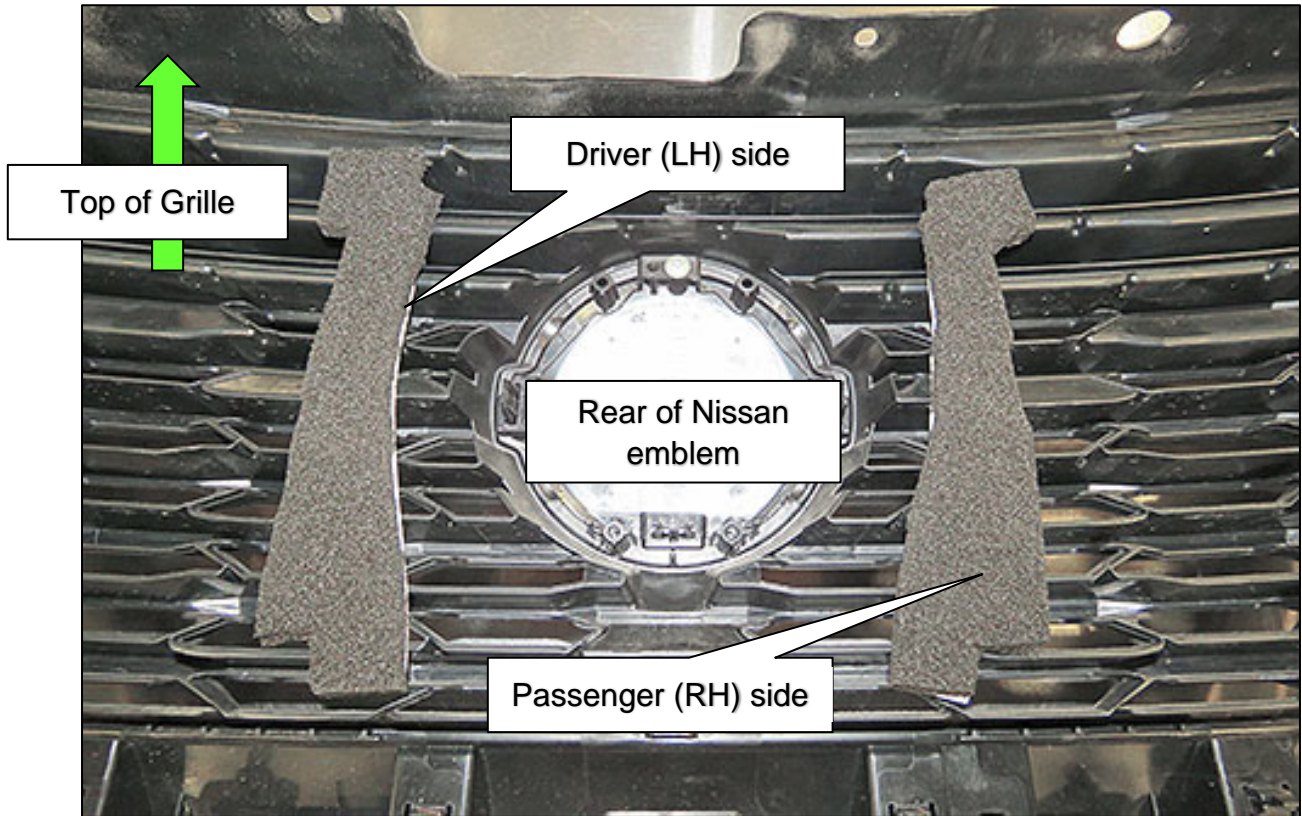
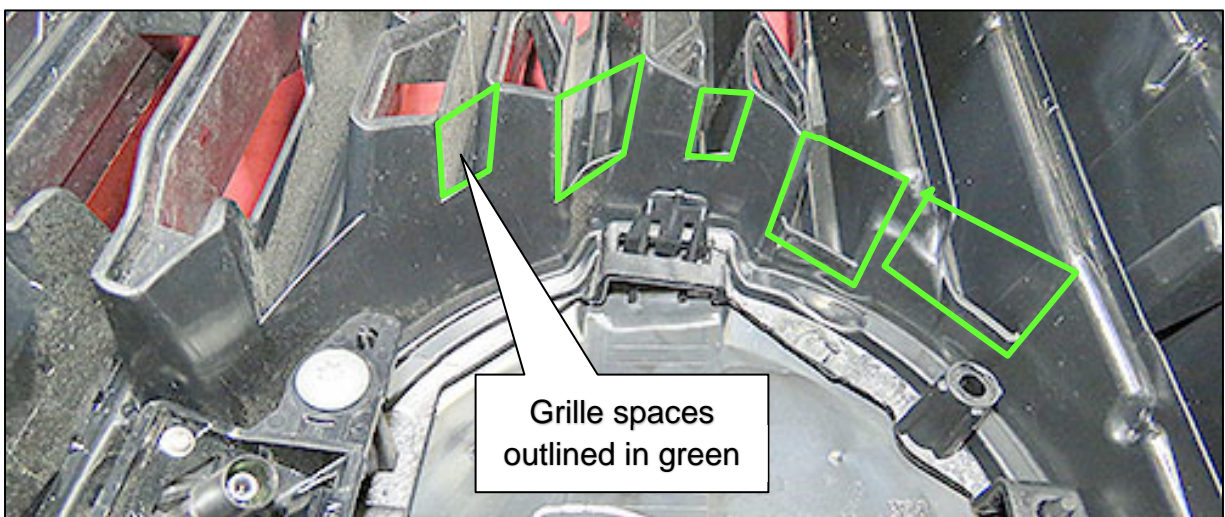

Figure 2
Figure 3
Refer to steps 4-7 to attach two (2) Foam Seals (Figure 2) to the inside of the Nissan emblem, on the Grille, to close the Grille spaces (Figure 3).
**HINT:** The Foam Seals are left and right, and are shown in Figure 2 on the sides and orientation that they will be installed.